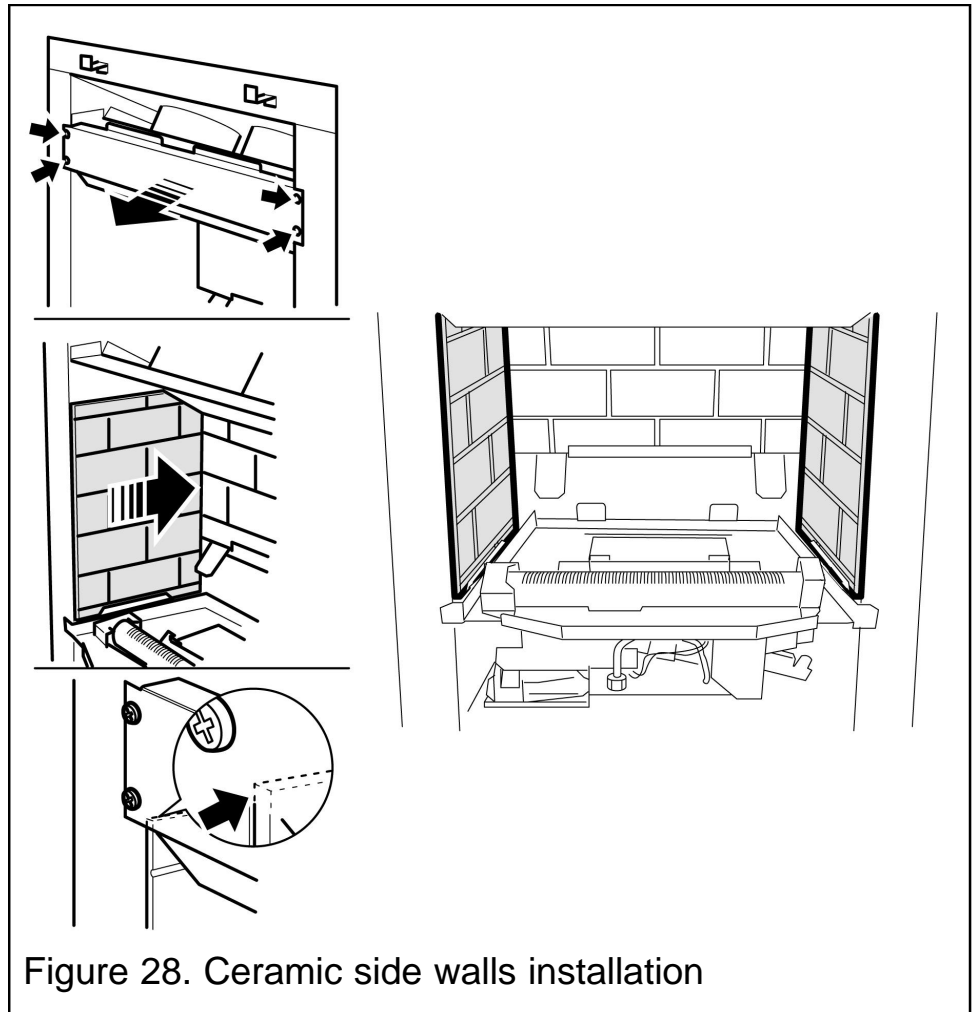

Figure 28. Ceramic side walls installation
2. Remove four screws from the spillage plate sides (See figure 28).
4. Fit the ceramic side walls against the side faces of the burner compartment. The bottom edges of the walls should rest in the ledges at the sides of the firebox. Slide them in from the front and ensure that they touch the rear wall. The friction between the side walls and the rear wall should hold the side walls in position (See figure 28)